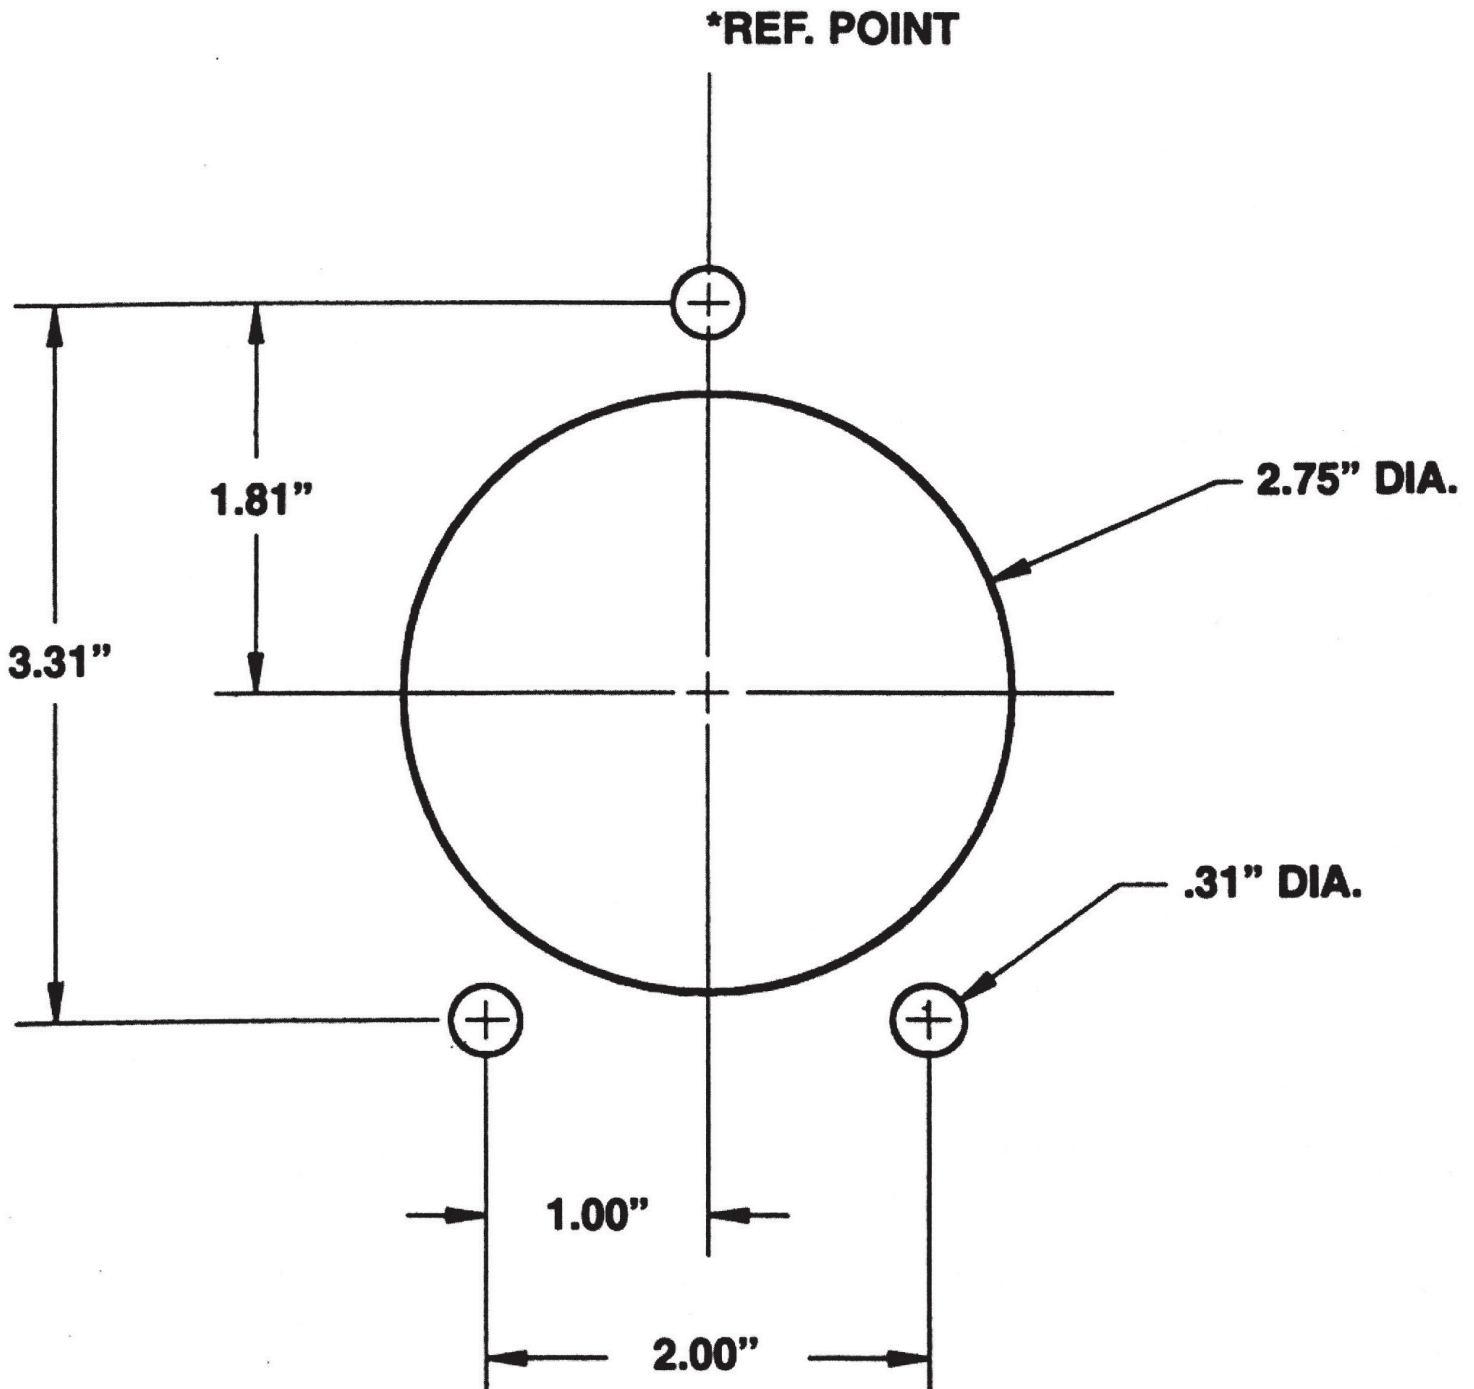

Figure 4.
The helm may be installed for either vertical, port, starboard or inline cable entry. This is determined by the type of engine and the construction of the boat. Figure 1 and the template show a reference point to assist in positioning the mounting bracket. Study this carefully before drilling any holes. Dimensions shown in Figure 1 and the template must be maintained to ensure proper clearances. Locate the position for the steering wheel on the console or dashboard. Using template (Figure 4) oriented as determined by Figure 1, mark location of holes. Drill three holes 6.60mm (5/16") diameter and one hole 69.85mm (2-3/4") diameter. Place Mounting Bracket (item 1) in position on dash and fasten securely in place using Washers (item 5), Hex Bolts (item 3) and Locknuts (item 4).